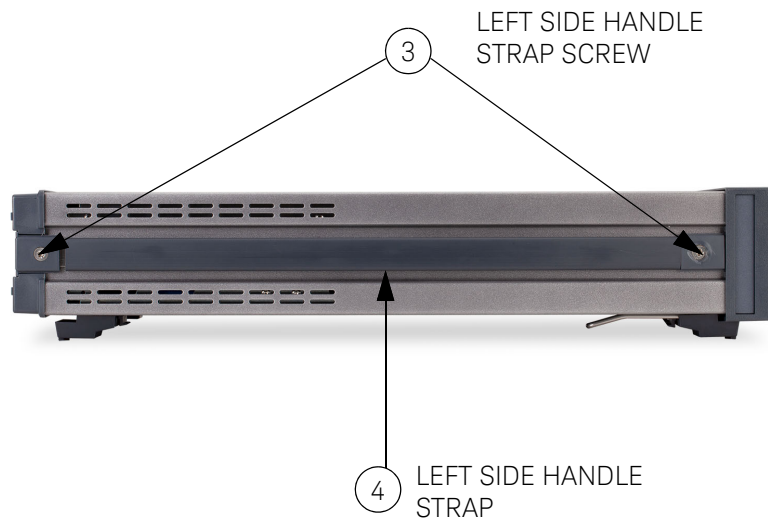

Figure C-2 3458A left side
- 5 Refer to Figure C-2. Turn the instrument so its left side faces you.
- 8 Refer to Figure C-2. Reinstall the left side handle strap. Use the #1 Pozidriv to reinstall side handle strap screws.